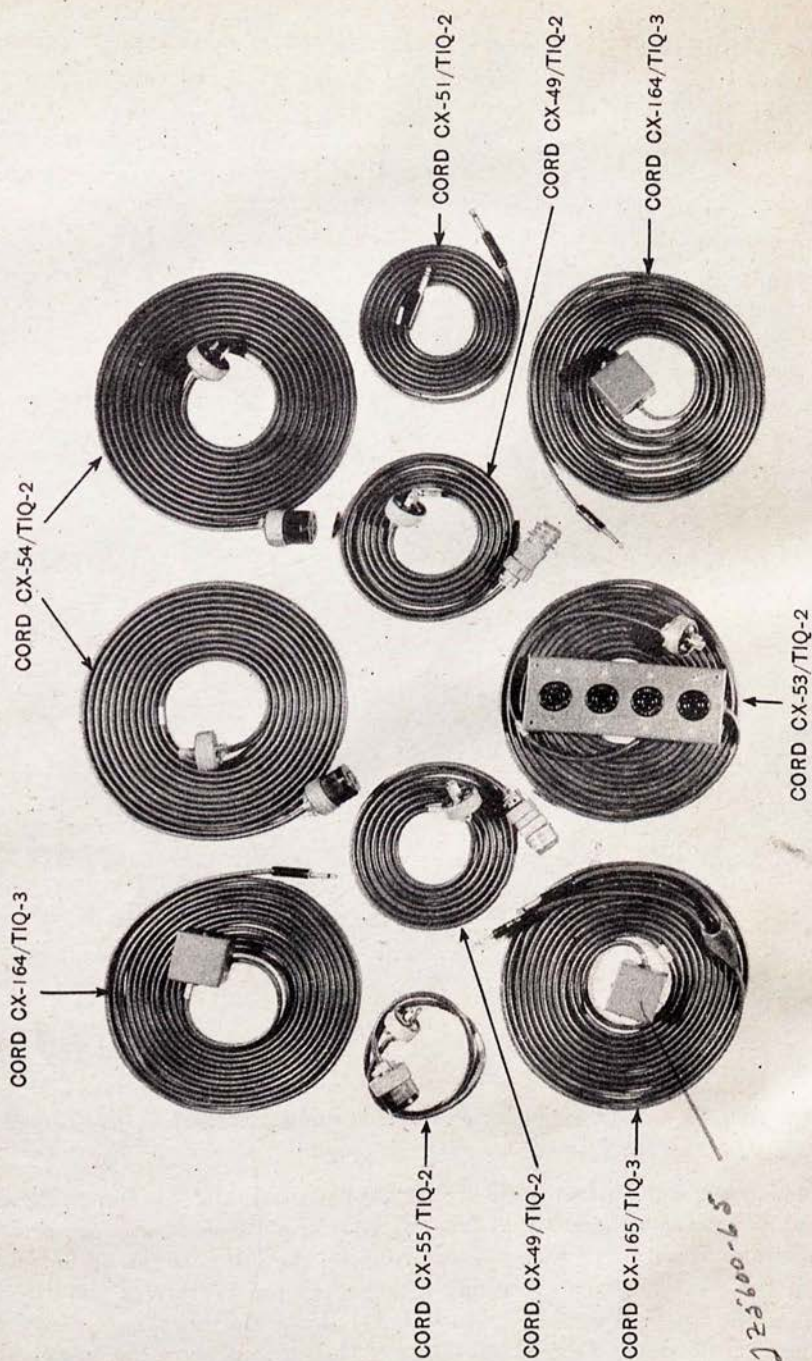

Figure 7. Cords CX-49/TIQ-2, CX-51/TIQ-2, CX-53/TIQ-2, CX-54/TIQ-2, CX-55/TIQ-2, CX-164/TIQ-3, and CX-165/TIQ-3.
e. Cord CX-49/TIQ-2, A-c Power Cords W-1 and W-2 (figs. 7 and 11). (1) Cord CX-49/TIQ-2 (W-1) is stored in the bottom drawer of the SPARE PARTS case. This cord consists of 10 feet of two-conductor cable, and is terminated at one end by female connector J-10 which is attached to male connector P-15 on the front panel of the control unit. The other end of this cord is terminated by plug P-10 which is inserted into receptacle J-12, J-13, J-14, or J-15 in the connector box on power extension Cord CX-53/TIQ-2 (W-4).
(2) Cord CX-49/TIQ-2 (W-2) is stored in the bottom drawer of the SPARE PARTS case. This cord consists of 10 feet of two-conductor cable, terminated at one end by female connector J-11 which is attached to connector P-14 on the front panel of the amplifier unit. The other end of this cord is terminated by plug P-9 which is inserted into receptacle J-12, J-13, J-14, or J-15 in the connector box on power extension Cord CX-53/TIQ-2 (W-4).
i. Cord CX-53/TIQ-2, Power Extension Cord W-4 (figs. 7 and 11). Cord W-4 is stored in the bottom drawer of the SPARE PARTS case. This cord is a 25-foot rubber-covered, two-conductor cable, terminated at one end by a connector box containing receptacles J-12, J-13, J-14, and J-15, to which are connected plug P-10 on control unit power cord W-1, and plug P-9 on amplifier power cord W-2. The two remaining receptacles are spares. The other end of cord W-4 is terminated by plug P-13 which may be connected directly to the power output connector on Power Unit PE-214-B, or to the female connector on one of the power extension cords W-5, W-6, or W-7.
g. Cords CX-54/TIQ-2, Power Extension Cords W-5 and W-6 (figs. 7 and 11). (1) Cord CX-54/TIQ-2 (W-5) is stored in the bottom drawer of the SPARE PARTS case. This is a 25-foot rubber-covered, two-conductor cable, terminated at one end by female connector J-18 which is connected to plug P-13 on power cord W-4. The other end of cord W-5 is terminated by plug P-12 which may be connected directly to the power unit, or to the female connector on power extension cord W-6.
(2) Cord CX-54/TIQ-2 (W-6) is stored in bottom drawer of the SPARE PARTS case. This is a 25-foot rubber-covered, two-conductor cable, terminated at one end by female connector J-17 which is connected to plug P-12 on power extension cord W-5. The other end of cord W-6 is terminated by plug P-11 which may connect directly to the power unit, or to the female connector on cord W-7.
h. Cord CX-55/TIQ-2, Power Connection Adapter Cord W-7 (figs. 7 and 11). Cord W-7 is stored in the bottom drawer of the SPARE PARTS case. This cord is a 3-foot, rubber-covered, two-conductor cable,
i. Cord CX-51/TIQ-2, Interconnecting Cable W-3 (figs. 7 and 11). Cord W-3 is stored in the bottom drawer of the SPARE PARTS case. This cord is a 10-foot rubber-covered, single-conductor, shielded cable, terminated at one end by Plug PL-55 (P-8) which is inserted into Jack JK-34A (J-1) on the control unit. The other end of cord W-3 is terminated by Plug PL-55 (P-5) which is connected to Jack JK-34A (J-4) on the amplifier front panel, or the jack on one of the interconnecting extension cords W-8 or W-9.
j. Cords CX-164/TIQ-3, Interconnecting Extension Cords W-8 and W-9 (figs. 7 and 11). (1) Cord W-8 is stored in the bottom drawer of the SPARE PARTS case. This cord is a 25-foot rubber-covered, single-conductor, shielded cable, terminated at one end by Plug PL-55 (P-6) which is connected to Jack JK-34A (J-4) on the amplifier front panel. The other end of cord W-8 is terminated by a connector box containing Jack JK-34A (J-6) which is connected to plug P-5 on cord W-3. (2) Cord W-9 is stored in the bottom drawer of the SPARE PARTS case. This cord is a 25-foot rubber-covered, two-conductor, shielded cable, terminated at one end by Plug PL-55 (P-7) which is connected to Jack JK-34A (J-4) on the front panel of the amplifier unit. The other end of cord W-9 is terminated by a connector box containing Jack JK-34A (J-7) which is connected to plug P-6 on power extension cord W-8. This cord provides additional extension for interconnecting cords W-3 and W-8.
k. Cord CX-165/TIQ-3, Handset-cord Extension W-10 (figs. 7 and 11). Cord W-10 is stored in the bottom drawer of the SPARE PARTS case. This cord is a 25-foot rubber-covered, 5-conductor, shielded cable, divided into a Y at one end. One cord of the Y contains two conductors and terminates in Plug PL-55 (P-4) which is connected to Jack JK-34A (J-2) on the control unit panel. The other cord of the Y contains three conductors terminating in Plug PL-68 (P-2) which connects to Jack JK-33A (J-8) on the control unit panel. The other end of cord W-10 is terminated by a connector box containing one Jack JK-34A (J-3) which connects to Plug PL-55 (P-3) on the handset cord W-11, and one Jack JK-33A (J-9) which connects to Plug PL-68 (P-1) on the handset cord W-11. This cord is used to extend the handset cord when necessary.